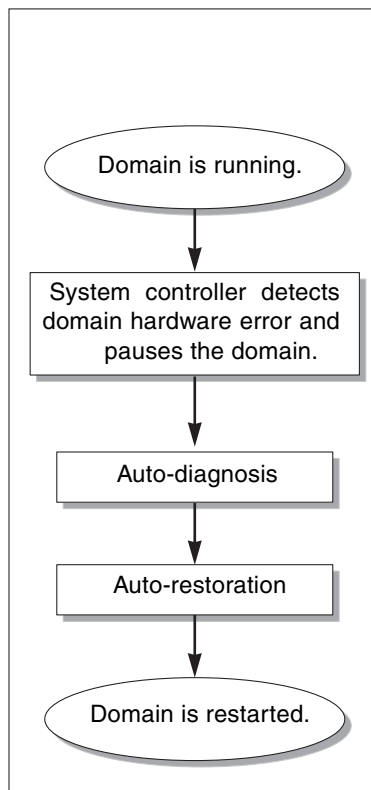

FIGURE 7-1 Error Diagnosis and Domain Restoration Process
Depending on the type of hardware errors that occur and the diagnostic controls that are set, the system controller performs certain diagnosis and domain restoration steps, as FIGURE 7-1 shows. The firmware includes an *auto-diagnosis* (AD) engine, which detects and diagnoses hardware errors that affect the availability of a platform and its domains.
The following summary describes the process shown in FIGURE 7-1: